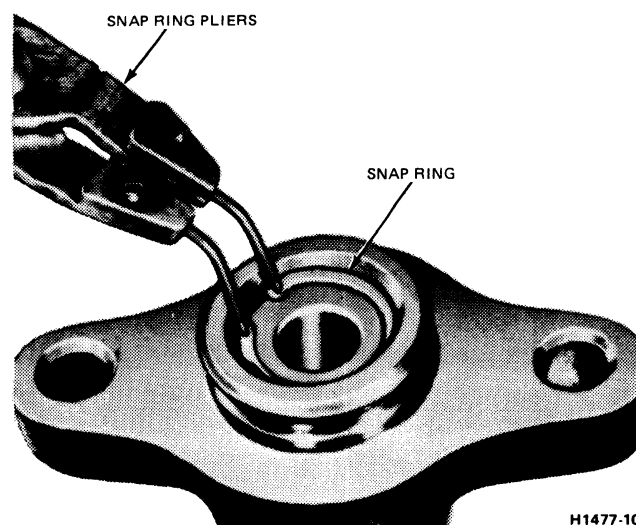

FIG. 34 Removing Snap Ring—Typical
3. Remove the snap ring (Fig. 34) holding the primary and secondary piston assemblies in the cylinder body.